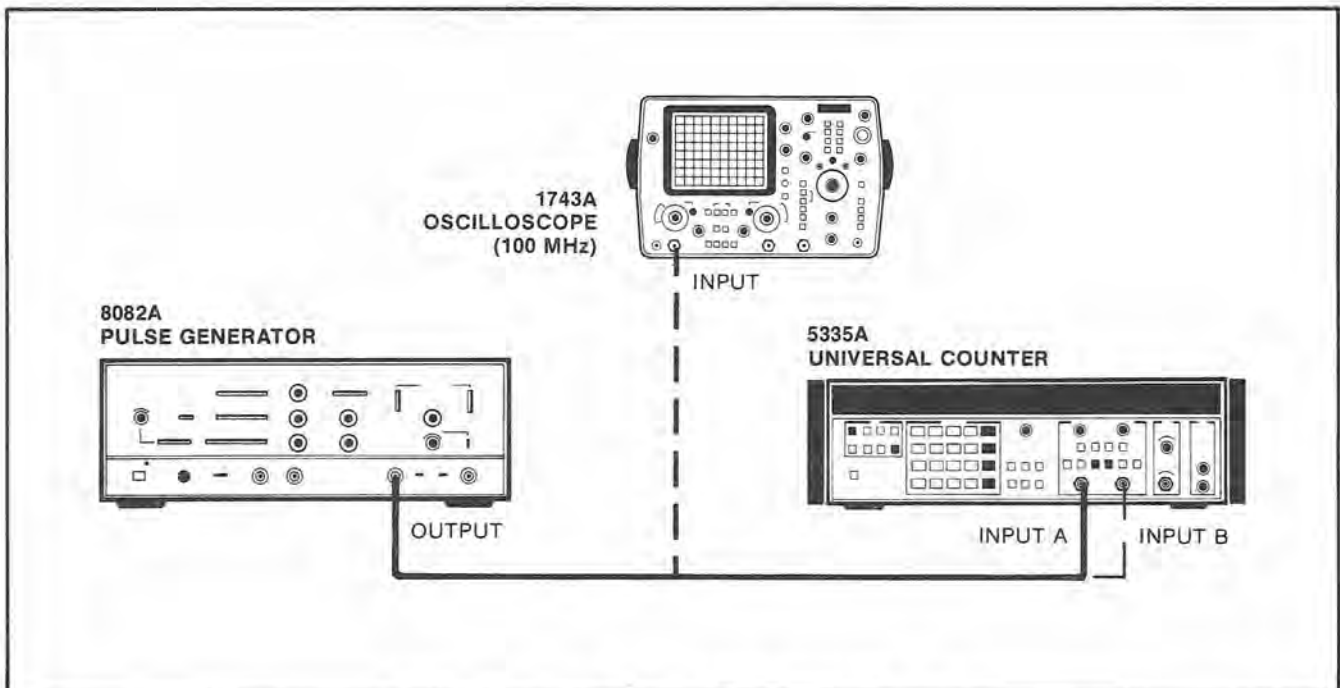

Figure 4-14. Pulse Width A and Pulse Width B Test Setup
- a. Connect the HP 8082 Pulse Generator to the HP 5335A INPUT A as shown in Figure 4-14.